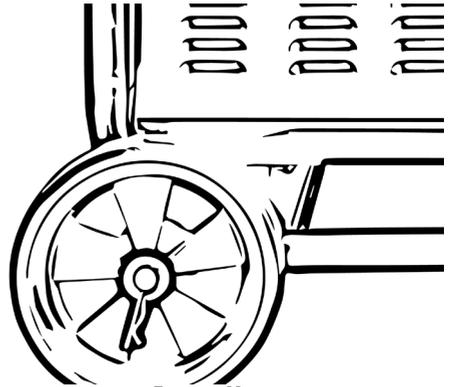

Figure 11
- Secure the entire unit with a safety cotter pin, see Fig. 11.